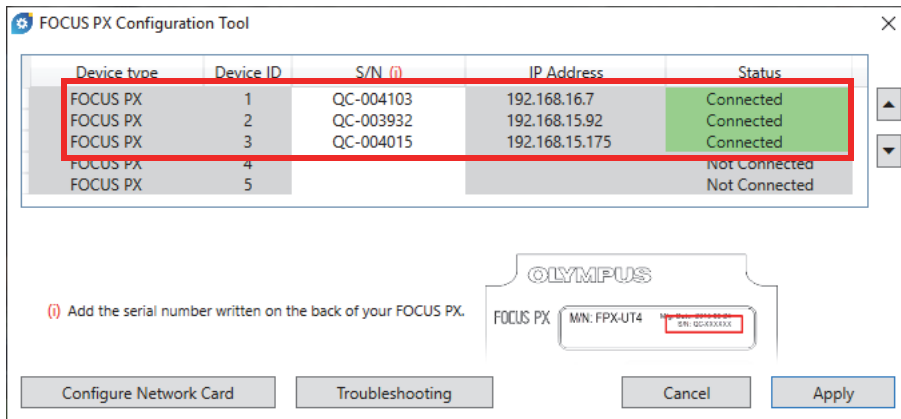

Figure 1-20 FOCUS PX Configuration Tool (3 devices)
6. If you use more than one FOCUS PX unit, repeat the enter step of the serial number on the next entry (Figure 1-20 on page 38). Ensure that the order of the units is the same as the synchronization connection (see “Connecting a FOCUS PX to a Computer and Setting Connection Parameters” on page 22).